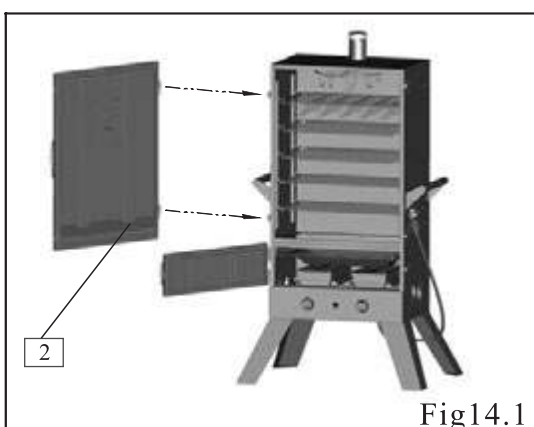

Fig14.1
*Procedure:* Attach the upper door assembly on the smoker cabinet. Fig14.1